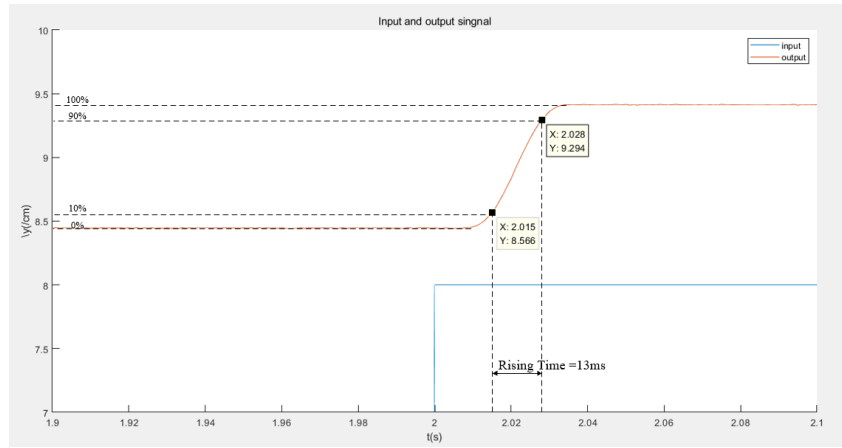

Figure 3: Step Response.
Fig. 3 is obtained with the sampling time of $1ms$, and we can see the rise time is about $13ms$, which means there are about 13 points in one rise time. According to the requirement of “the sampling time is set to give around four to ten samples per rise time” in the lab description, we choose $2ms$ as sampling time so that there will be 6 to 7 samples per rise time.
- Plot of step responses yielding sampling time is shown in Fig.3.